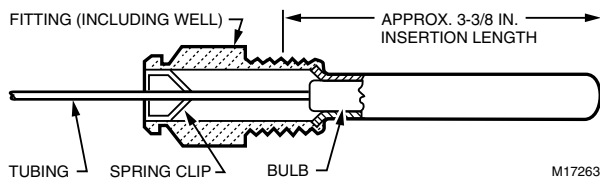

Fig. 6. Mounting spring clip into well spud.
2. Push the clip as far as possible into the spud. See Fig. 6.